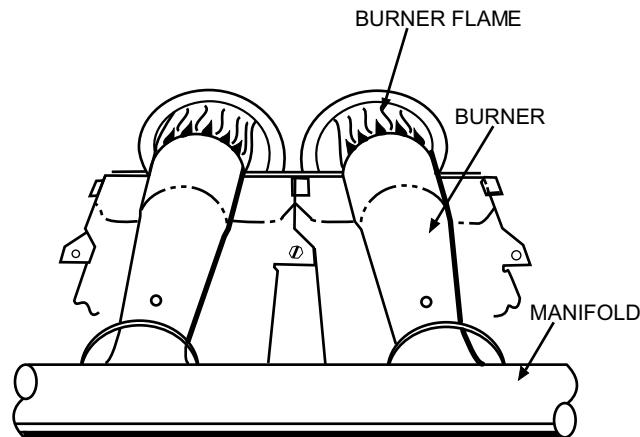

Fig. 14 – Monoport Burner
33. With control access panel removed, observe unit heating operation in both low stage operation and high stage operation. Watch burner flames to see if they are blue in appearance, and that the flames are approximately the same for each burner (see Fig. 14).